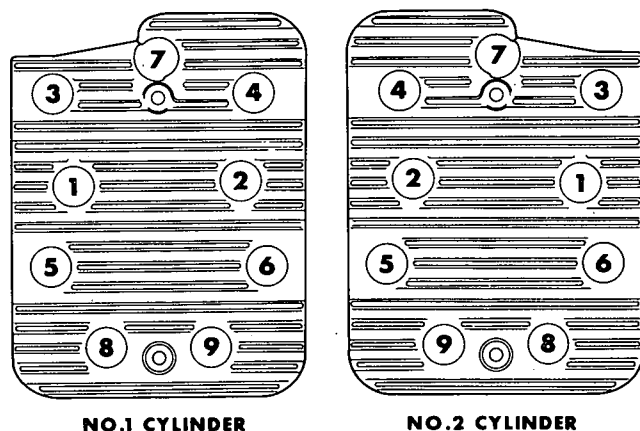

FIGURE 39. CYLINDER HEAD TORQUE SEQUENCE
4. Place heads in position and follow head torque tightening sequence shown in Figure 39. Start out tightening all nuts to 5 ft-lb, then 10 ft-lb, etc., until all nuts are torqued 14-16 ft-lb.